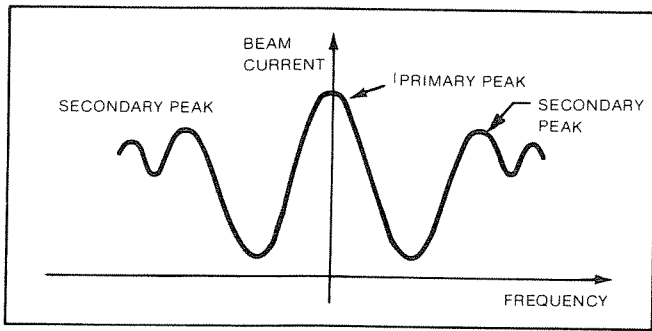

Figure 3-4. Beam Current and Applied Frequency
- i. Adjust C-FIELD control to top of maximum peak as indicated on BEAM I meter. See Figure 3-4 and NOTE below.
- f. Slowly adjust OSC FREQUENCY COARSE for the maximum BEAM I (primary peak) on CIRCUIT CHECK meter. (See *Figure 3-4*.) It is possible to peak the BEAM I on a secondary peak. Check the maximum by adjusting OSC FREQUENCY COARSE for a secondary peak on each side of the primary peak (see *Figure 3-4*). These secondary peaks will be smaller than the primary peak. (Note: Do not use OSC FREQUENCY X10⁻¹⁰ control for this adjustment.)